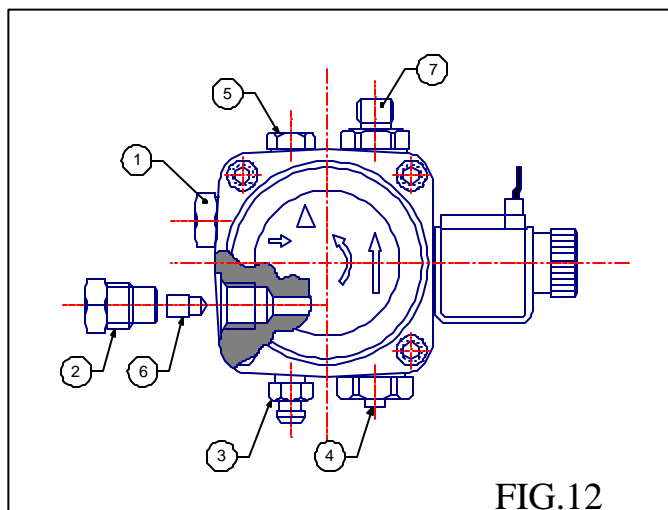

FIG.12
Refer to FIG. 12
- A) Install BY-PASS PLUG. (See FIG. 12)
- A) Loosen the bleeder valve (3, FIG. 12) until oil flows out. Tighten the bleeder valve securely and start burner.
- 1) Loosen the bleeder valve (3, FIG. 12).
- 5) Tighten the bleeder valve (3, FIG. 12) securely and re-install the photocell (2, FIG. 10).
NOTE: To protect the pump gears, it is advisable to lubricate the pump prior to purging a lift system. Apply oil through the VACUUM GAUGE PORT (5, FIG. 12).